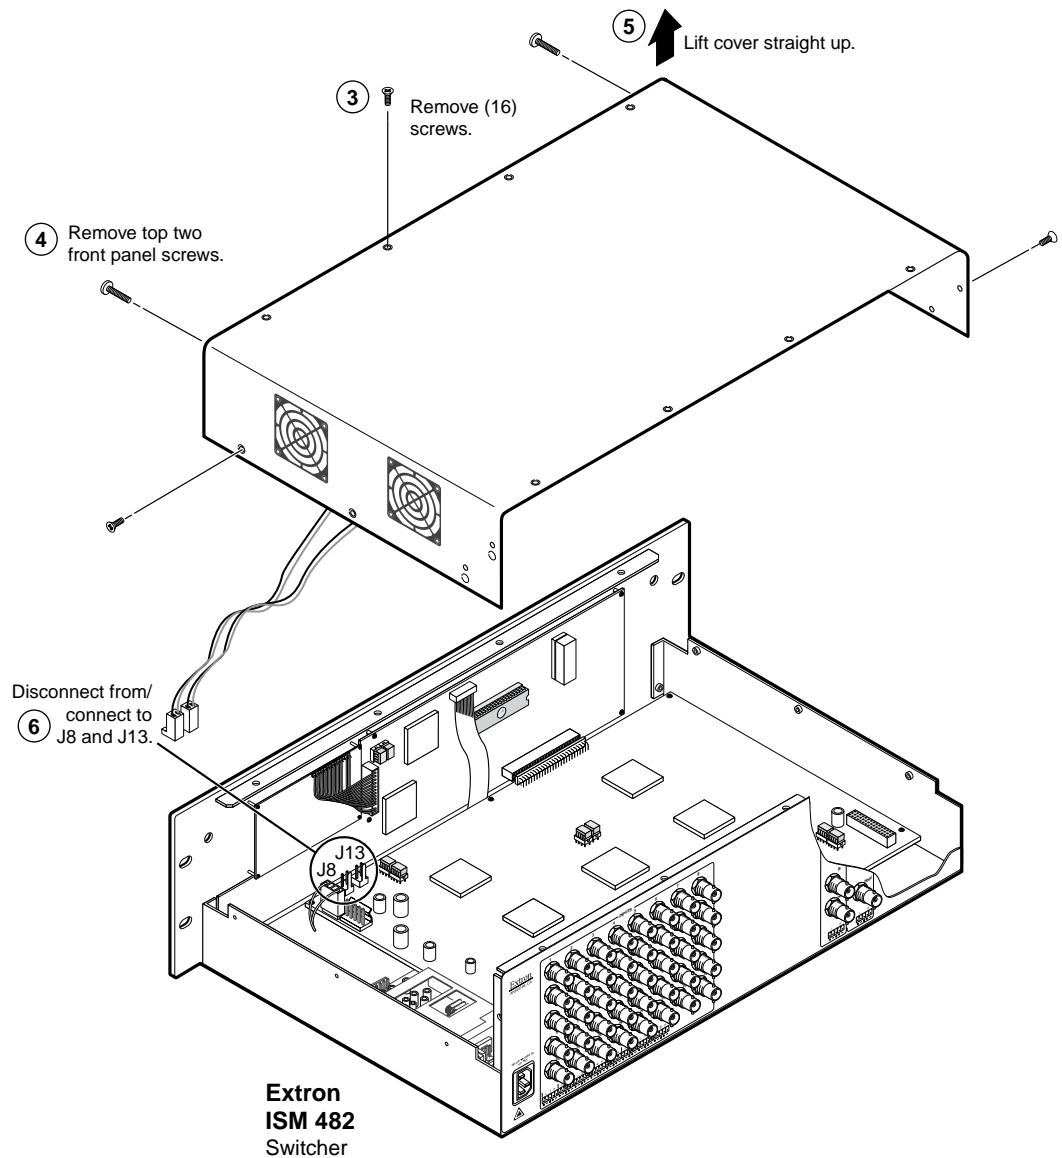

Figure 49. Removing the ISM Cover
3. Remove the 16 screws, 8 on the top and 4 on each side of the ISM cover (see figure 49 on the next page).